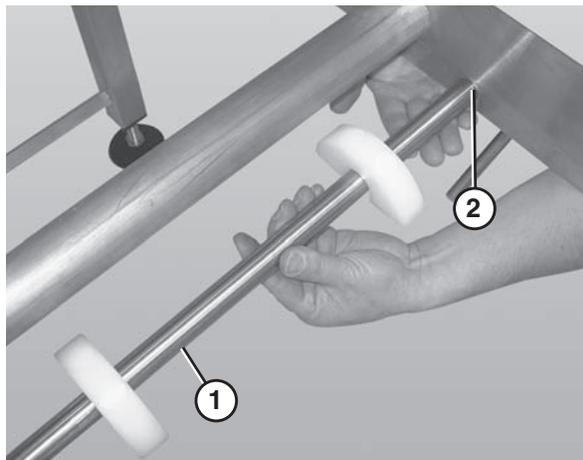

Figure 44
2. Slide the return shaft (**Figure 44, item 1**) up and through the large slot (**Figure 44, item 2**) in the frame (picture shown without the belt or wear strips).
3. Push up on the return shaft (**Figure 44, item 1**) and slide the notched end of the shaft through the small slot on the opposite side of the frame.